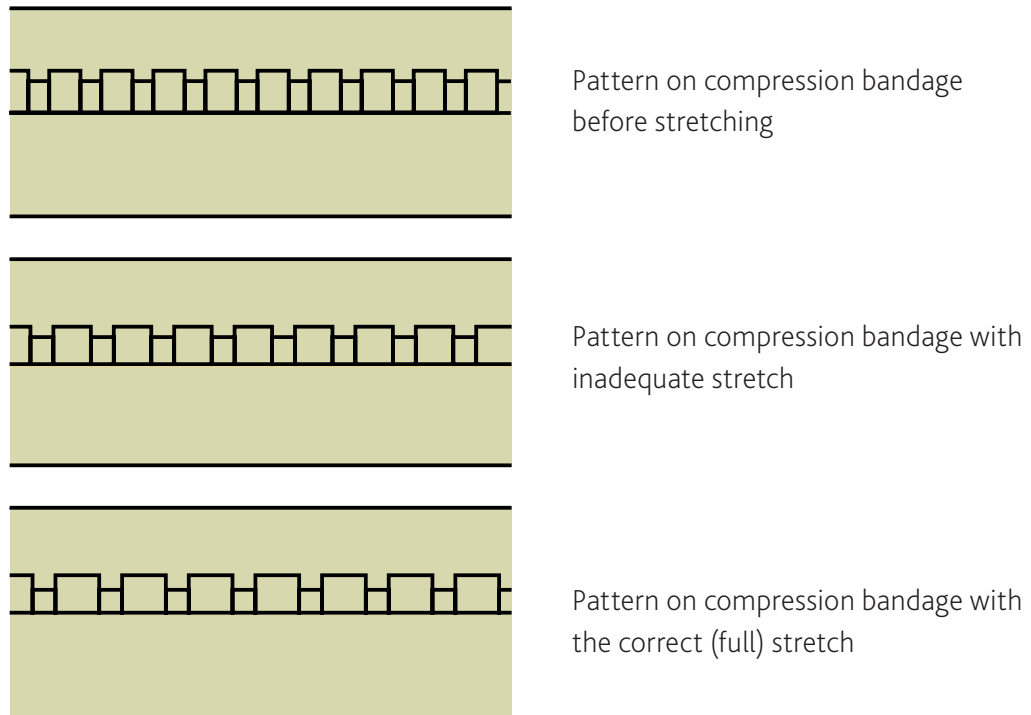

Figure 5: Comparison of compression bandage tightness
5. Use a minimum of two bandage layers at full stretch (no elasticity remaining in the bandage). When the bandage is at its maximum tightness, the small rectangular tension markers will stretch to become square in shape. See *Figure 5* below.